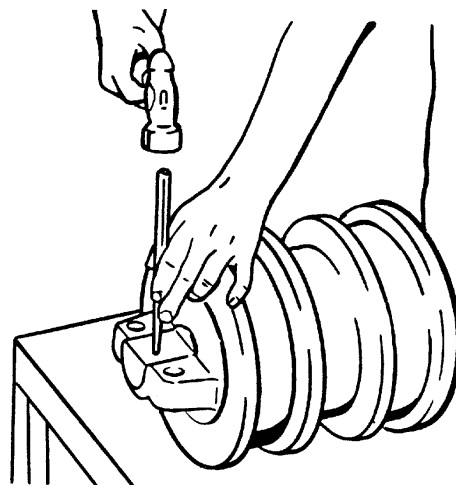

Fig. 9.36. Removing Spring Pin
1. Remove plug (11) and drain roller. Drive out spring pin (10) securing the bracket (9) on each side of the shaft (3) as shown in Fig. 9.36.
2. Remove the track roller shaft brackets (9) with the O-Rings (8) and the stators of the seals kit (7). Discard the O-Rings. Remove the seal kit stators from the brackets and discard the rubber rings.
3. Remove the bolts securing the seal retainers (6) to each side of the roller body and remove the retainers with sealing rings (5) and the rotors of the seals kit (7). Discard the sealing ring (5). Remove the seal kit from the retainers and discard rubber rings.